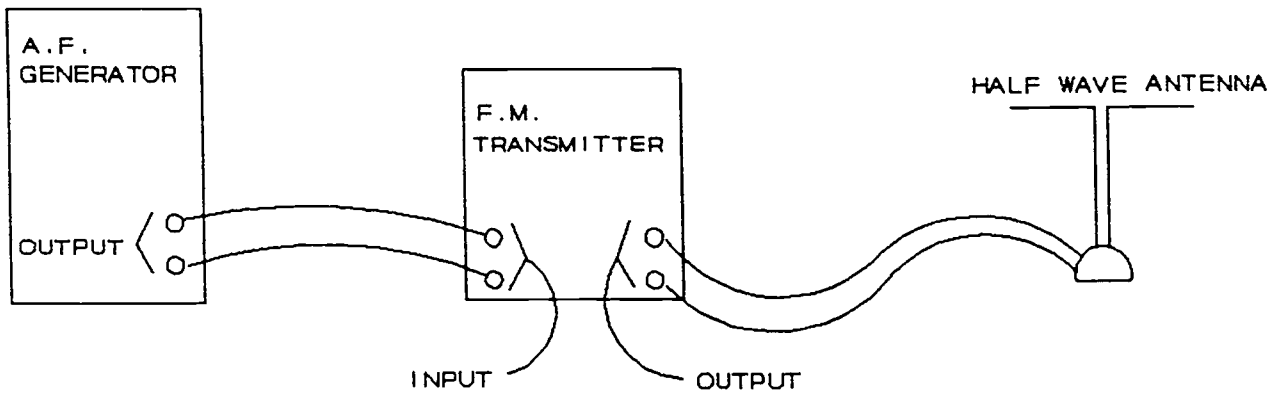

Figure C-6-8
6. Connect the audio frequency (AF) generator, frequency modulated (FM) transmitter, and the horizontal half-wave (Hertz) transmitting antenna as shown in Figure C-6-8, "FM Transmitter Hookup."